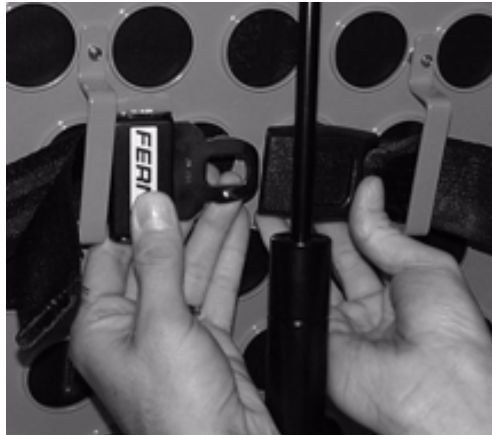

Figure 13 - Fastening the Pedi-Mate® Buckle
4. Wrap the straps around the backrest and insert the ends of the straps through the brackets. Securely fasten the buckle (see Figure 13).